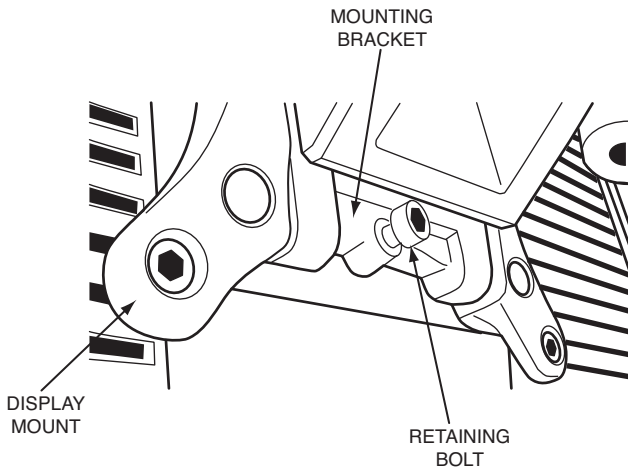

Fig. 4 — Bolt Display Screen to Arm
- Two hooks secure the display screen to the mounting bracket. Hold the display screen until verifying that the display screen is supported by the hooks on the mounting bracket before releasing. See Fig. 4.